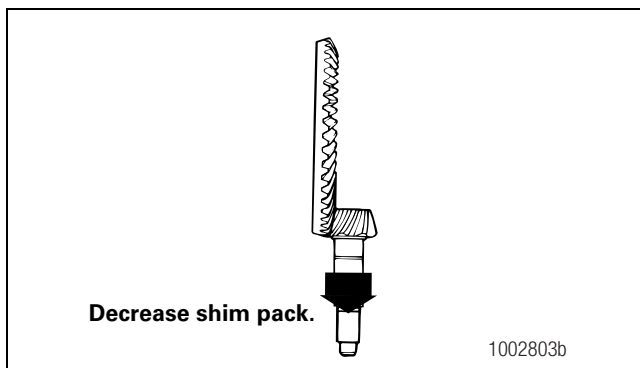

Figure 5.56
- **To correct a low contact pattern:** Decrease the thickness of the shim pack. When you decrease the thickness of the shim, the drive pinion will move away from the ring gear. Figure 5.56.